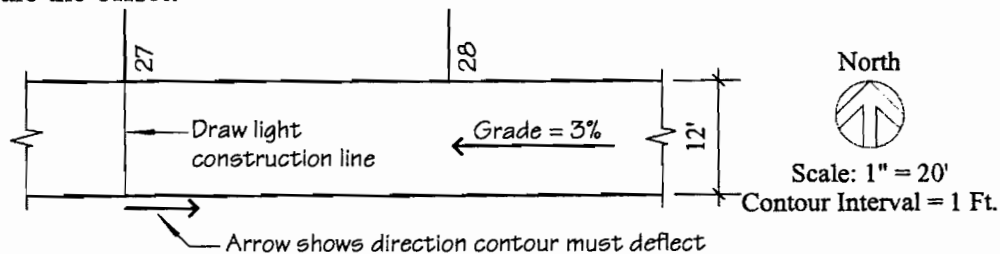

Figure 4-7. Drawing a Construction Line From a Point of Known Elevation
Step 4. Draw a light "construction" line across the short axis of plane surface, perpendicular to the edge at the point where the known elevation is, as shown in Figure 4-7. This line will be used to scale the offset: